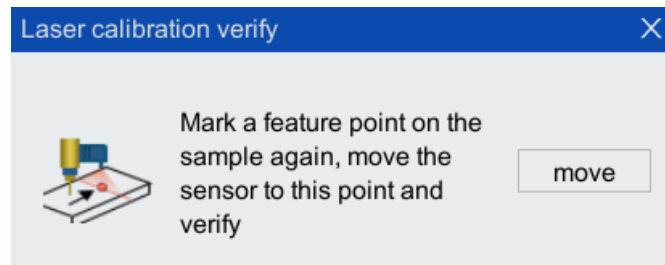

Figure 8-23 Calibration completion interface
Step8. As shown in Figure 8-23 below, click < move >, the welding torch will automatically move to the calibration point, and the calibration is successful.